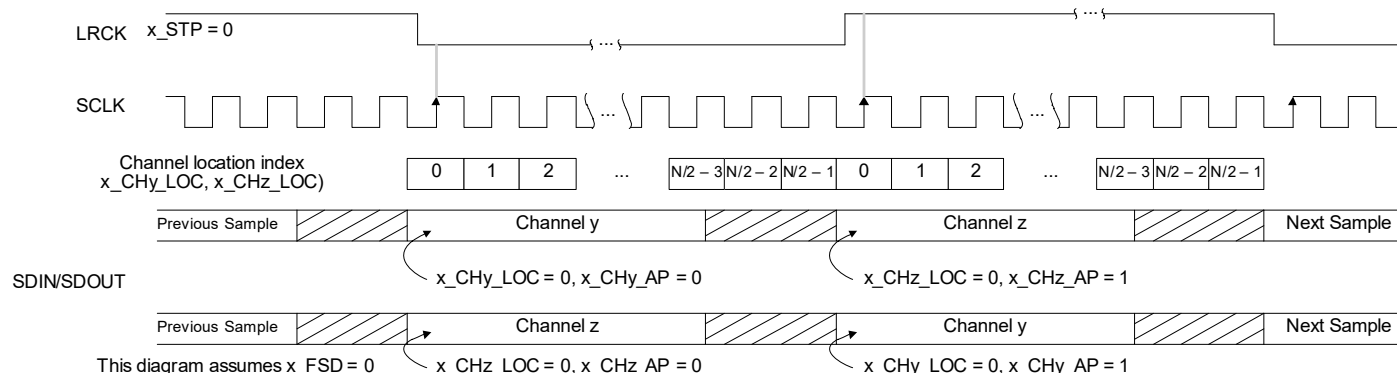

Figure 4-37. Example 50/50 Mode (ASP_STP = 0)
- If **ASP_STP** = 0, the frame begins when LRCK/FSYNC transitions from high to low. See Fig. 4-37.